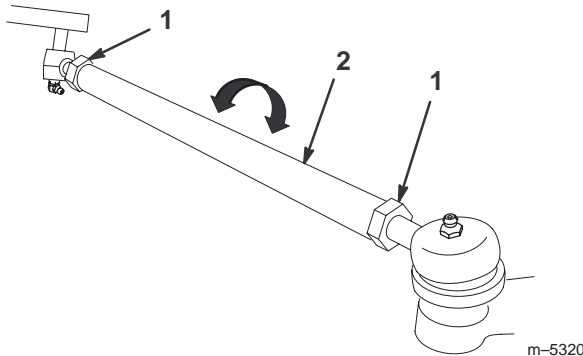

Figure 36
3. If the measurement is greater than 1/4 in. (6.4 mm), loosen the jam nuts at both ends of the tie rods (Fig. 36).